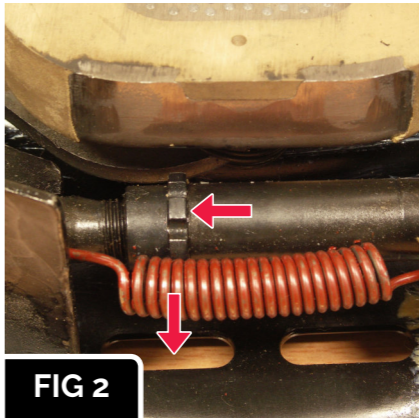

FIG 2
- With a flat head screw driver rotate the star wheel of the adjuster to expand the brake shoe assembly (fig 2).